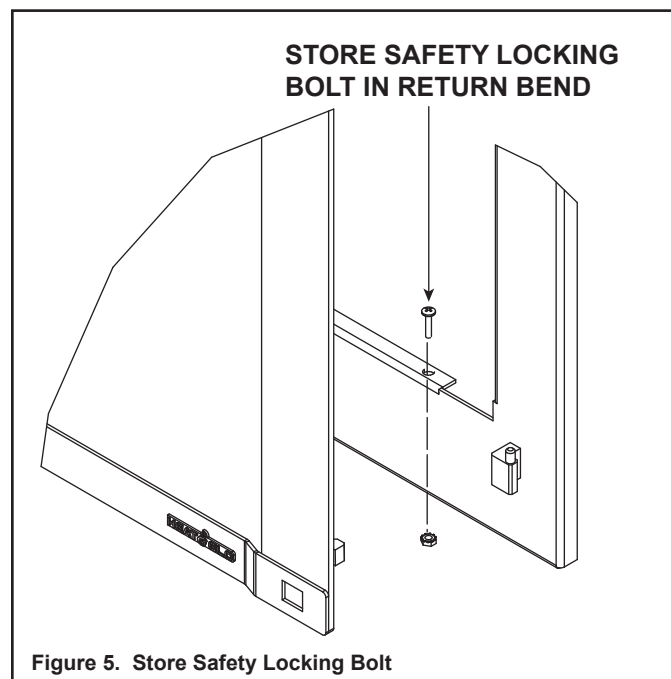

Figure 5. Store Safety Locking Bolt
2. If the bolt and nut used as a child safety lock are removed, store them in the bottom return bend for future use. See Figure 5.